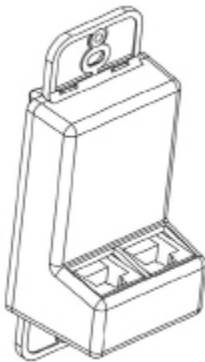

Figure 1: Back View of Switches
3. Route the CAT5 cable from the Room Controller to enter the RJ45 port on the switch (See Figure 1).